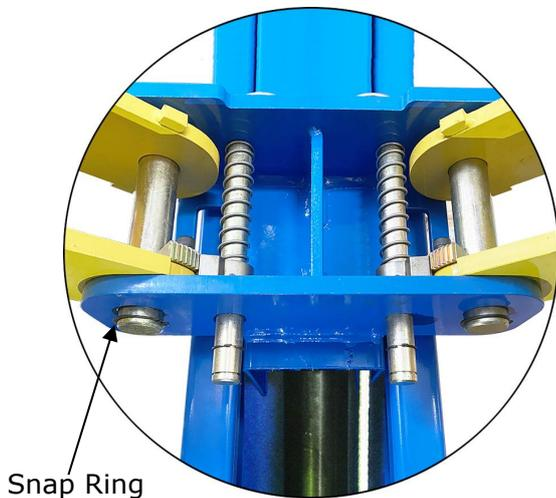

Fig. 26
1. Install the lifting arms (See Fig. 26)